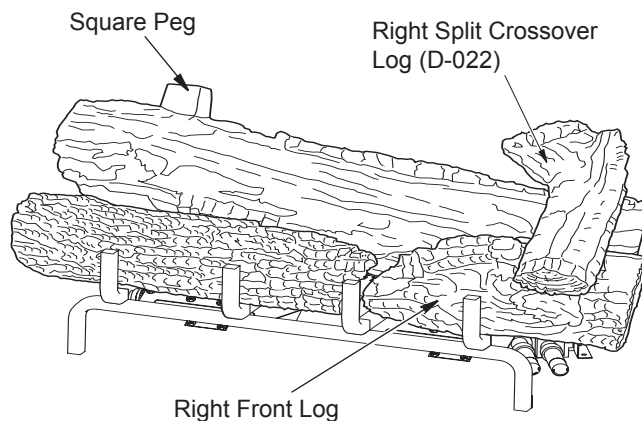

Figure 22 - Installing Right Split Crossover Log
- Find the right split crossover log (D-022) The bottom of the log has a rectangular stand off that fits in the slots on the right side of the front right log and the middle split log. Place this log as shown in Figure 22.